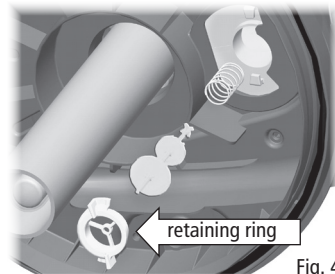
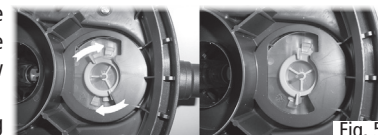

Fig. 4
Fig. 5
11. If necessary clean the Cleaning Indicator (U) after disassembling it as follows (the Mode Selector Switch (V) must be set to the "Filtering Mode" position): 1) remove the retaining ring by rotating it counter-clockwise, 2) remove the indicator and its spring. Rinse all parts in water and reassemble them with care (Fig. 4 - Fig. 5).
12. Inspect and clean the two Cleaning Blades (L) and the guide rods. If necessary, replace the blades with new ones. Each blade can easily be detached from the guiding rod by unscrewing the screw in the middle.